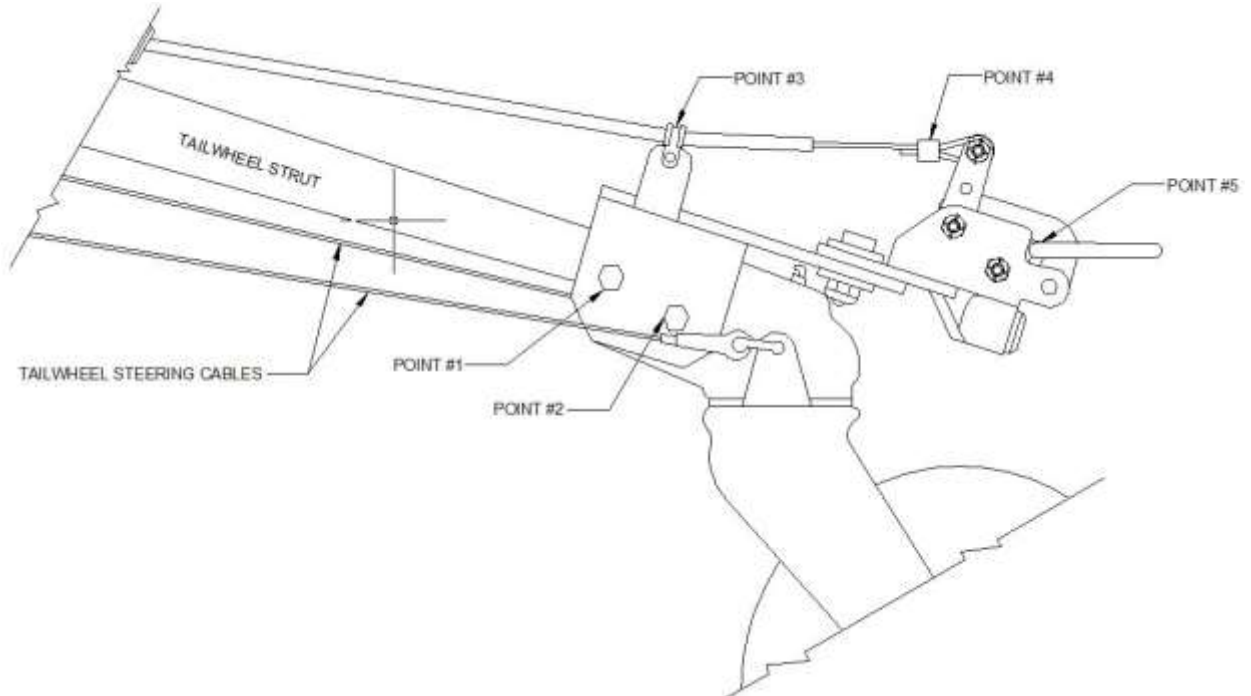

Figure 4.11: Tow Hook Installation on Cessna Models 180 and 185.
(7) Cessna Models 180 and 185. Refer to Figure 4.11 for clarification.